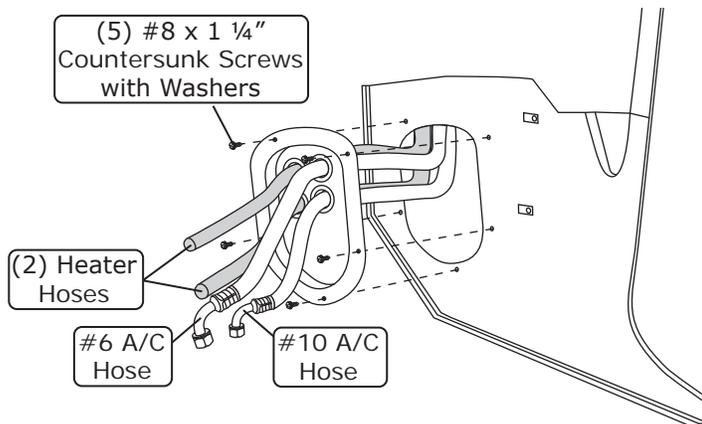

Figure 1
2. Route the A/C and heater hoses through the kick panel (See Figure 1, below).
4. Secure the kick panel using (5) #8 x 1 1/4" countersunk screws with washers (See Figure 1, below).